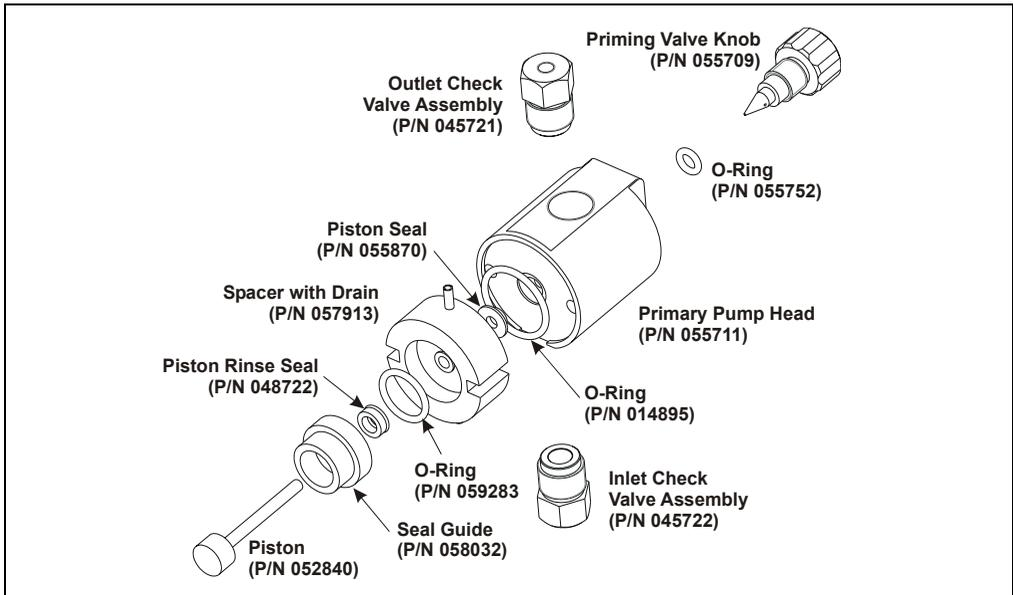

Figure 5-11. Primary Pump Head
- Place the head (front end down) on a clean work surface and lift off the spacer to expose the piston seal (see Figure 5-11 or Figure 5-12).